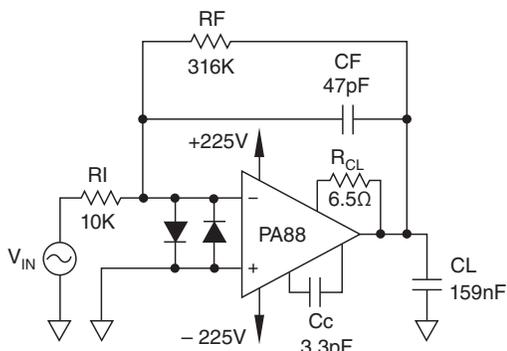
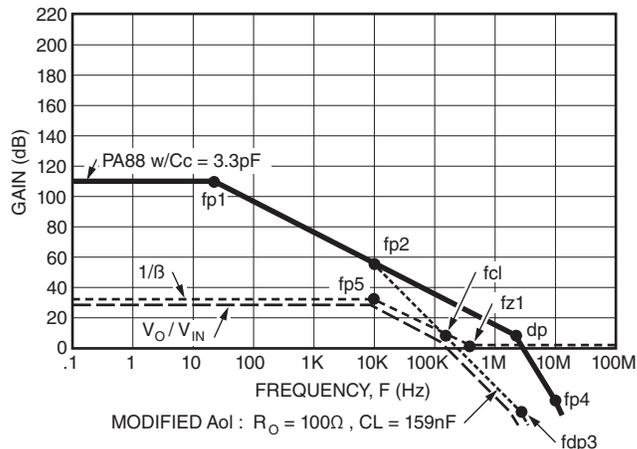

FIGURE 26. FEEDBACK ZERO COMPENSATION FOR CL
FIGURE 27. FEEDBACK ZERO COMPENSATION FOR CL MAGNITUDE PLOT FOR STABILITY
Figure 26 illustrates a circuit utilizing Feedback Zero Compensation for stability when driving a capacitive load. Figure 27 is our magnitude plot to work with for stability. The following procedure will ensure a logical approach to optimize stability:
- STEP 1:** Modify the PA88 Aol due to CL. Here we use the output impedance number for the PA88 of  $R_o = 100$  ohms. The higher frequency poles of the unmodified PA88 Aol must be added into the modified Aol as shown in Figure 26.
$f_{cl}$  such that if the modified Aol plot in the real world moves to the left towards lower frequency we will not be back at a 40 dB per decade rate of closure. Note in Figure 27 that the  $1/\beta$  plot has  $fp_5$  and  $fz_1$ . The feedback network continues to feed back output voltage beyond  $f_{cl}$  until we reach 0 dB. Then the  $1/\beta$  plot flattens out at 0 dB. It is important to include  $fz_1$  since it will be a pole in our open loop phase check
**STEP 5:** Once you have chosen CF to get the  $f_{p5}$  you want you automatically set  $f_{z1}$ .  $f_{z1}$  can be gotten graphically from the  $1/\beta$  plot. For those of you who want exact breakpoints, here are the formulae for the  $1/\beta$  plot in Figure 27.